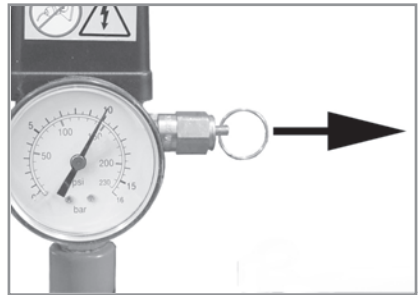

Figure 6
- 2 Check the operation of the safety valve, under pressure, daily by pulling the ring as shown in figure 6. Air should be released you pull the ring and stop when the ring is released.